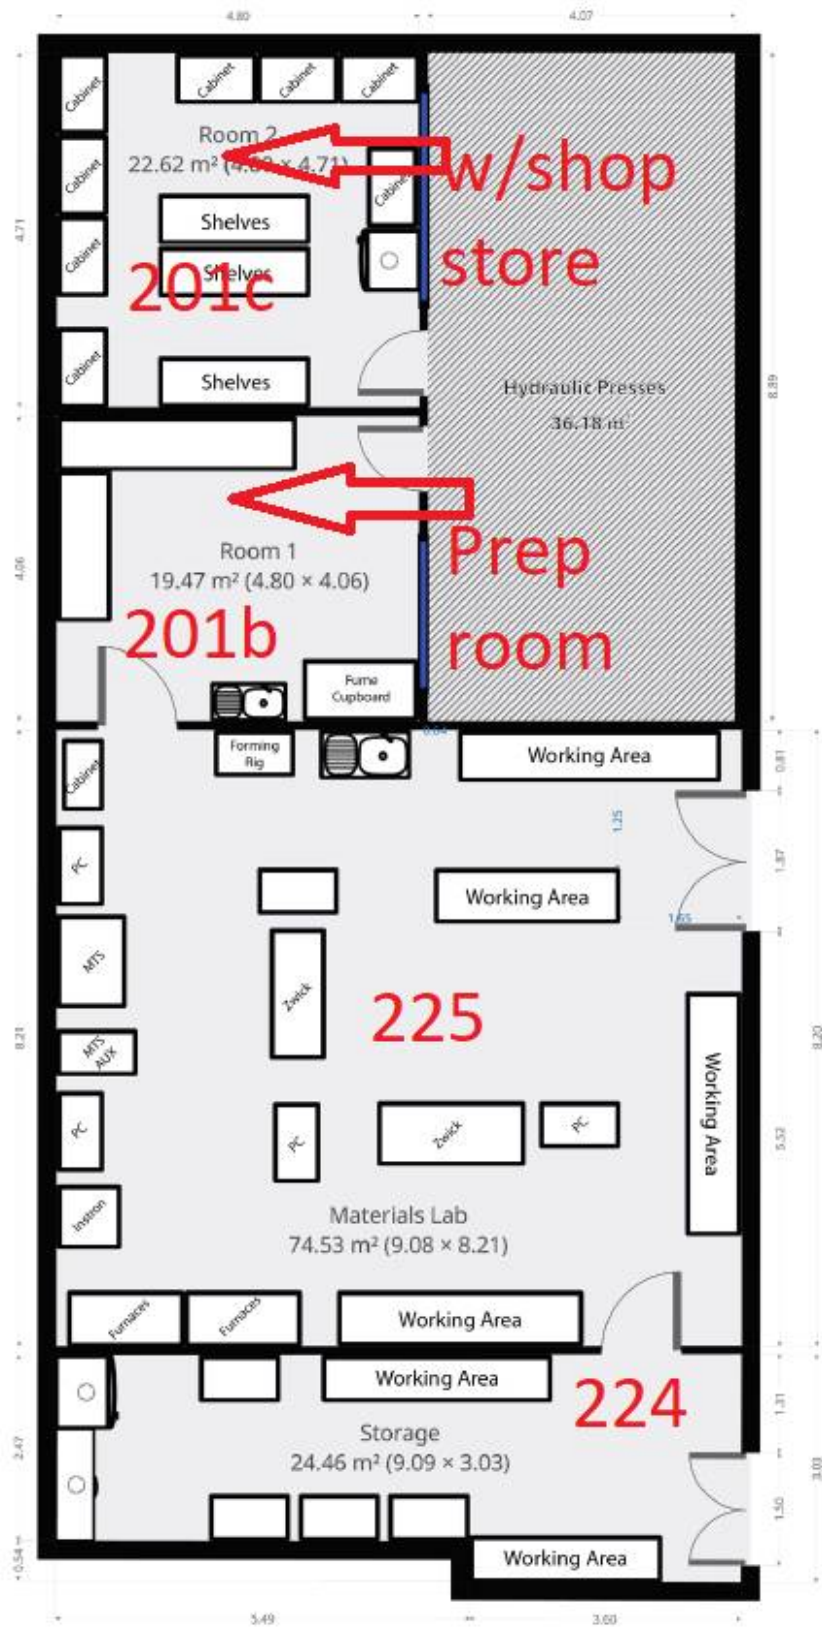

Figure 1. Rankine Lab plan drawing.
Hand washing Facilities: Located inside labs (Rm 225 and Rm 201b) and in area outside Rm 225 (see Figure 1)
- 2) Physical distancing within the Materials Testing Lab means a **maximum capacity of 2 people** working at any given time **in Rm 224 and the two adjacent rooms** (see Storage Room and Room 1 in Figure 1). If more than one person is in the lab, there should be strict protocol to limit movement within the labs and communication between lab users, as well as cleaning of common contact surfaces (e.g. door handles/push plates).